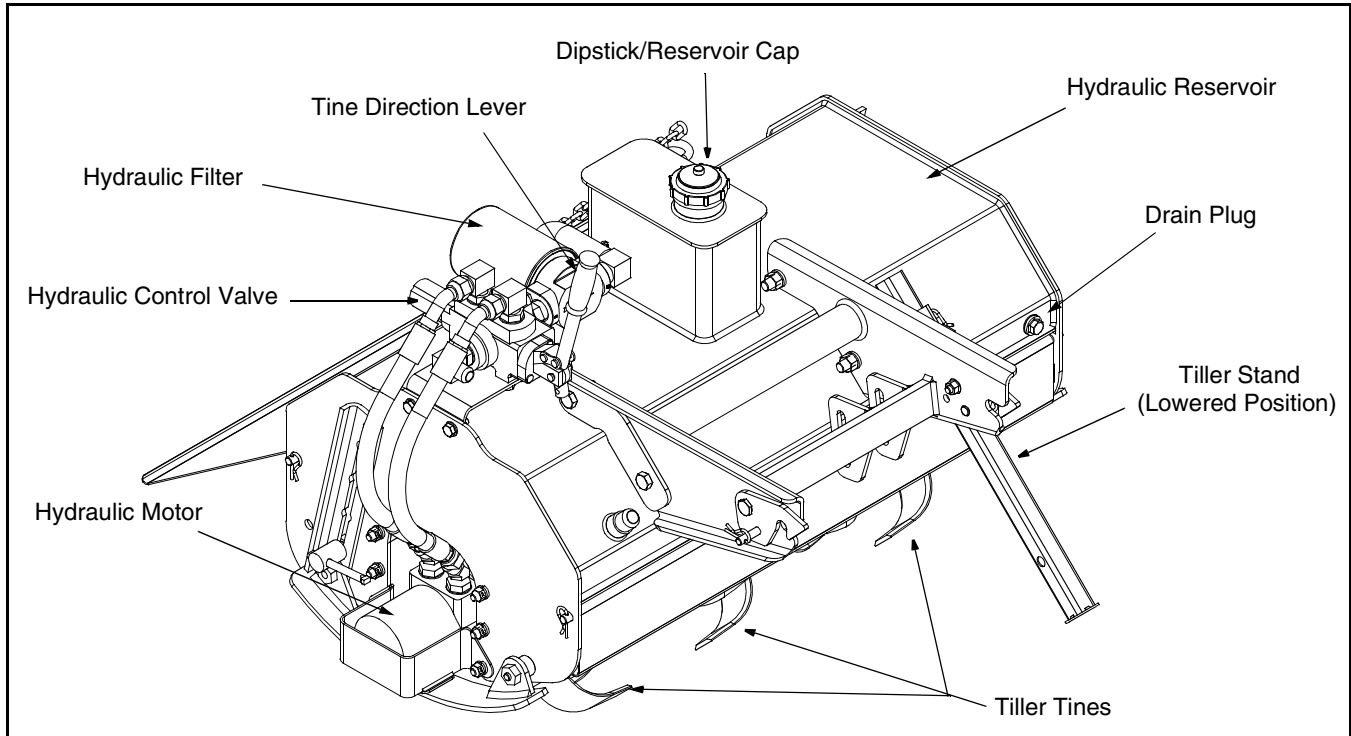
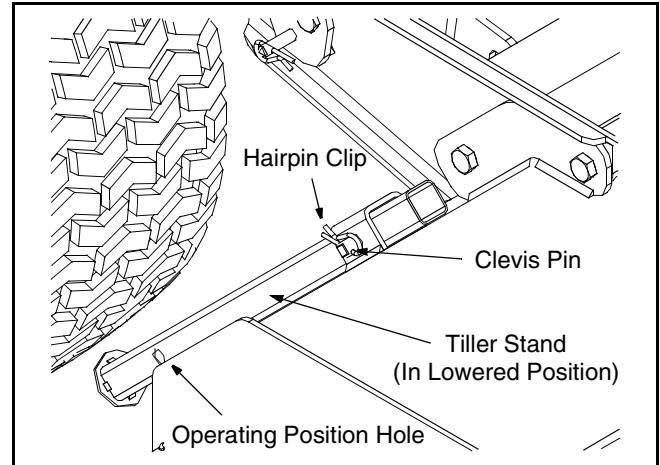

Figure 13
Figure 15
The tine direction lever is located on the top of the tiller attachment on the right side of the unit. See Figure 13. This lever is used to control which direction the tines turn.
- Pull the hairpin clip which secures the clevis pin to the tiller stand. See Figure 15.
F is the forward tilling position. Pulling the tine direction lever toward the front of the tractor engages the tines into a forward tilling motion (Refer to Figure 13). Forward tilling should be used for cultivating or tilling soft soil.
R is the reverse (counter-rotating) tilling position. Pushing the tine direction lever toward the rear of the tiller, or away from the operator, engages the tines into a counter-rotating tilling motion (Refer to Figure 13). Reverse direction tilling is used for breaking ground or tilling hard soil.
- Make certain the tiller stand is in the fully raised (Operating) position. See Figure 13 and Figure 15.
- Place the tractor's PTO in the engaged (ON) position.